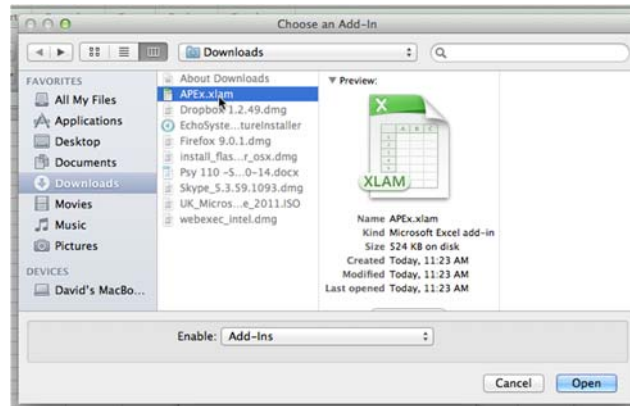

Figure 13
2. When Excel has restarted, click Tools and select Add-Ins again. This time, click **Select** and navigate to the location where you have placed the Add-In. Select the **APEx.xlam** file and click **Open** (Figure 13).